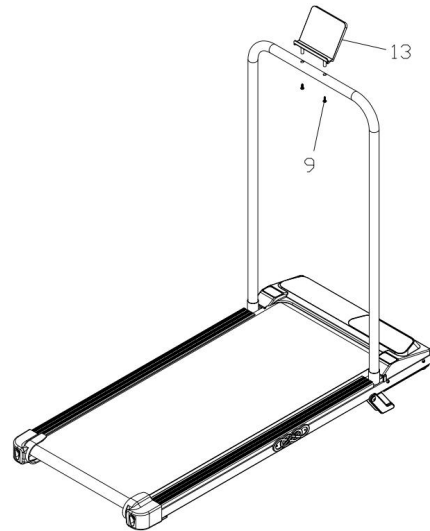

Figure 4
D: As shown in Figure (3), adjust the (15) Two-level Incline to the desired slope by following the arrow direction. Assembly is now complete (Figure 4).